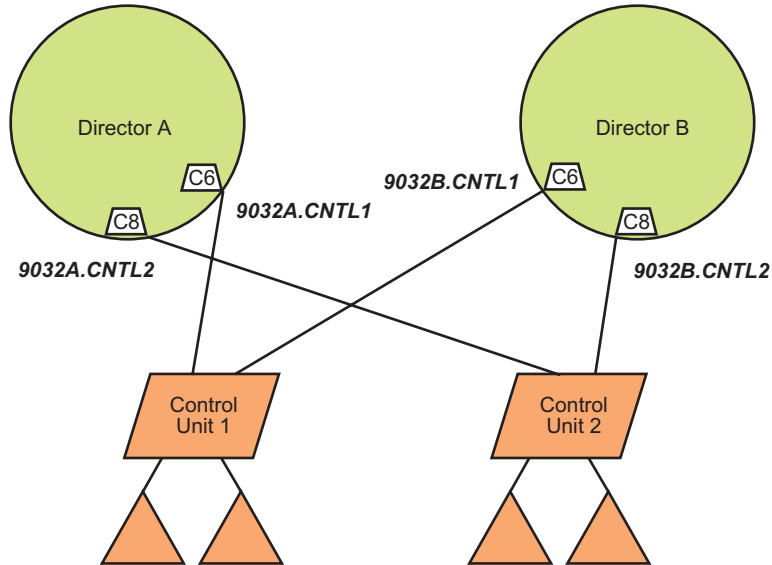

Figure 50. Unique Port Names for Multiple Directors
- If multiple Directors are installed and multiple control units are attached to the Directors, assign a unique port name to each Director-to-control unit connection. Figure 50 shows two Directors (A and B) connected to two control units (1 and 2). Note that both Directors connect to control unit 1 through logical port address C6. However, one port is assigned the unique name **9032A.CNTL1**, indicating a connection between Director A and control unit 1. The other port is assigned the unique name **9032B.CNTL1**, indicating a connection between Director B and control unit 1.